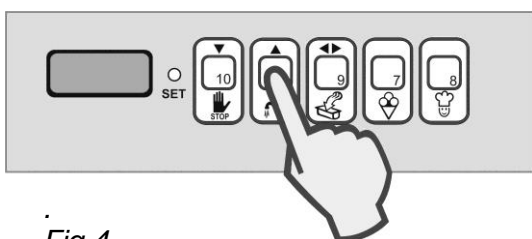

Fig. 4
6. If you do not wish to change the value of the selected step, press “**AGITAZIONE (MIXING)** (▲)” to directly access the following step (Fig. 4).